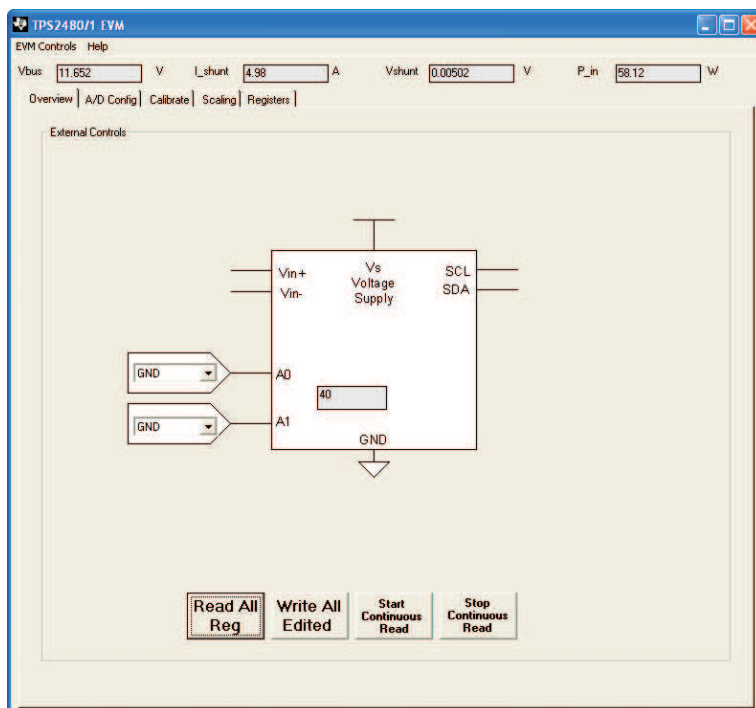

Figure 2. TPS2481EVM-001 and TPS2480EVM-002 GUI Overview Form
- Navigate to the TPS2480_1EVM.exe file, and double-click it. A GUI as shown in Figure 2 or Figure 4 appears. For a detailed example of the equations running behind the GUI, see the TPS2480/81 data sheet (SLUS939).